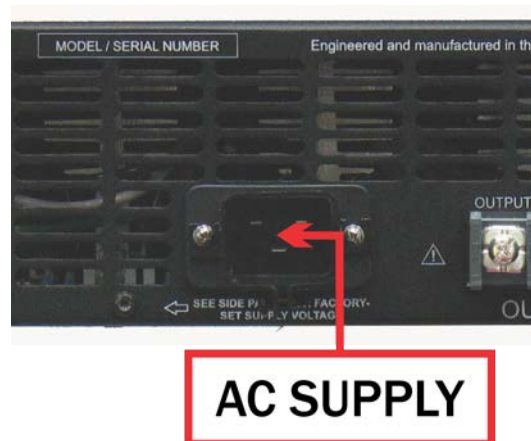

Figure 3.5 – Close-up of AC Mains Outlet
The power cord connects to a standard 20 amp 3-pin IEC-type male connector on the back panel (see **Figure 3.5**). Make sure the Breaker/Switch on the front panel is switched to the OFF (O) position. Make sure the power cord is inserted and seated fully into the IEC connector by moving it slightly back and forth and up and down while pushing in. The power cord is relatively stiff and should be routed so that there is no excessive force pulling to the sides or up or down that would stress the pins or internal connections. Tighten the cord strain relief screw to lock the power cord in place.